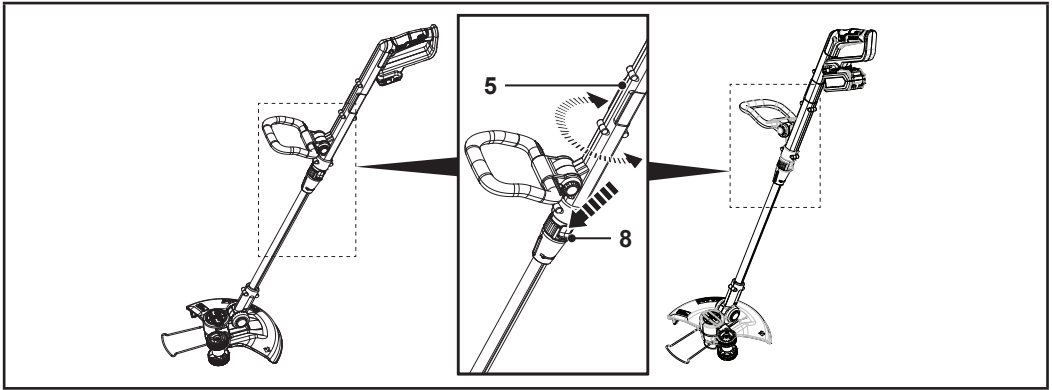

Fig. 7
1. Push down the angle adjustment lock (8) (Fig. 7).
2. Turn the upper pole (5) by 90° (Fig. 7).
3. Release the angle adjustment lock (8).
4. Make sure that the upper pole (5) locks in place.